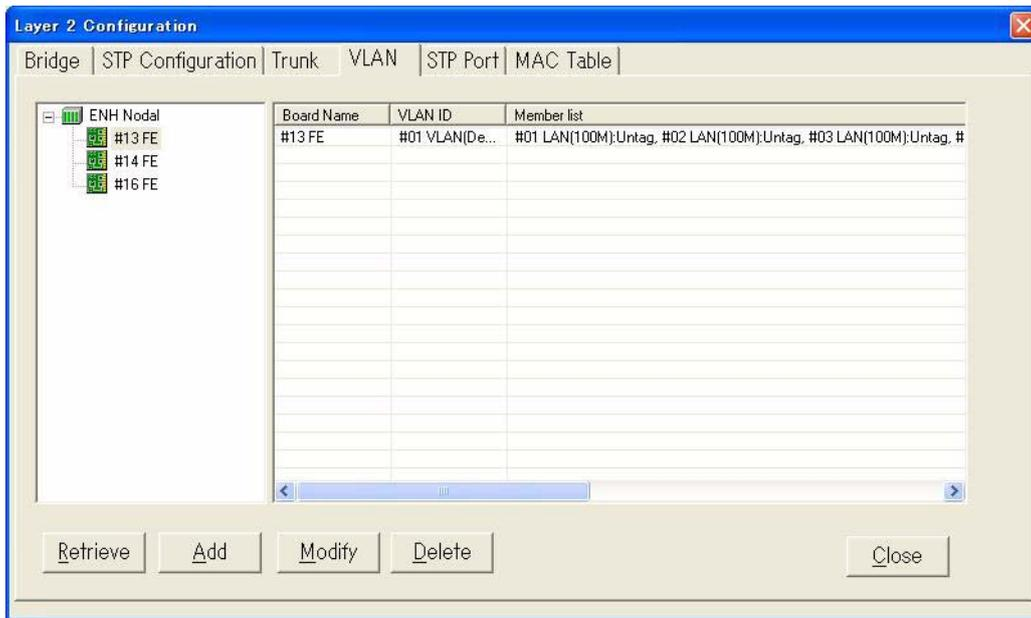
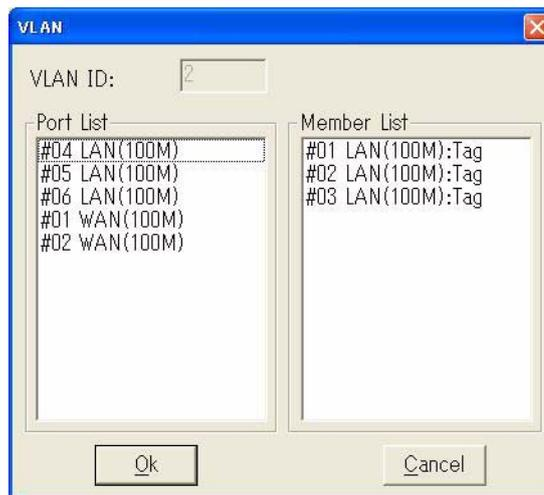

Fig. 4-4-67 VLAN
Fig. 4-4-71 Modifying VLAN
- 1 See *Fig. 4-4-42*, select **VLAN** attribute page on the top of window. *Fig. 4-4-67* appears:
- 1 See *Fig. 4-4-42*, select **VLAN** attribute page on the top of window. *Fig. 4-4-67* appears.
- 7 If need to modify a VLAN, select the VLAN port and click **Modify** button in *Fig. 4-4-67* and *Fig. 4-4-71* appears:
- 9 If need to delete a VLAN, select the VLAN and click **Delete** button in *Fig. 4-4-67*.